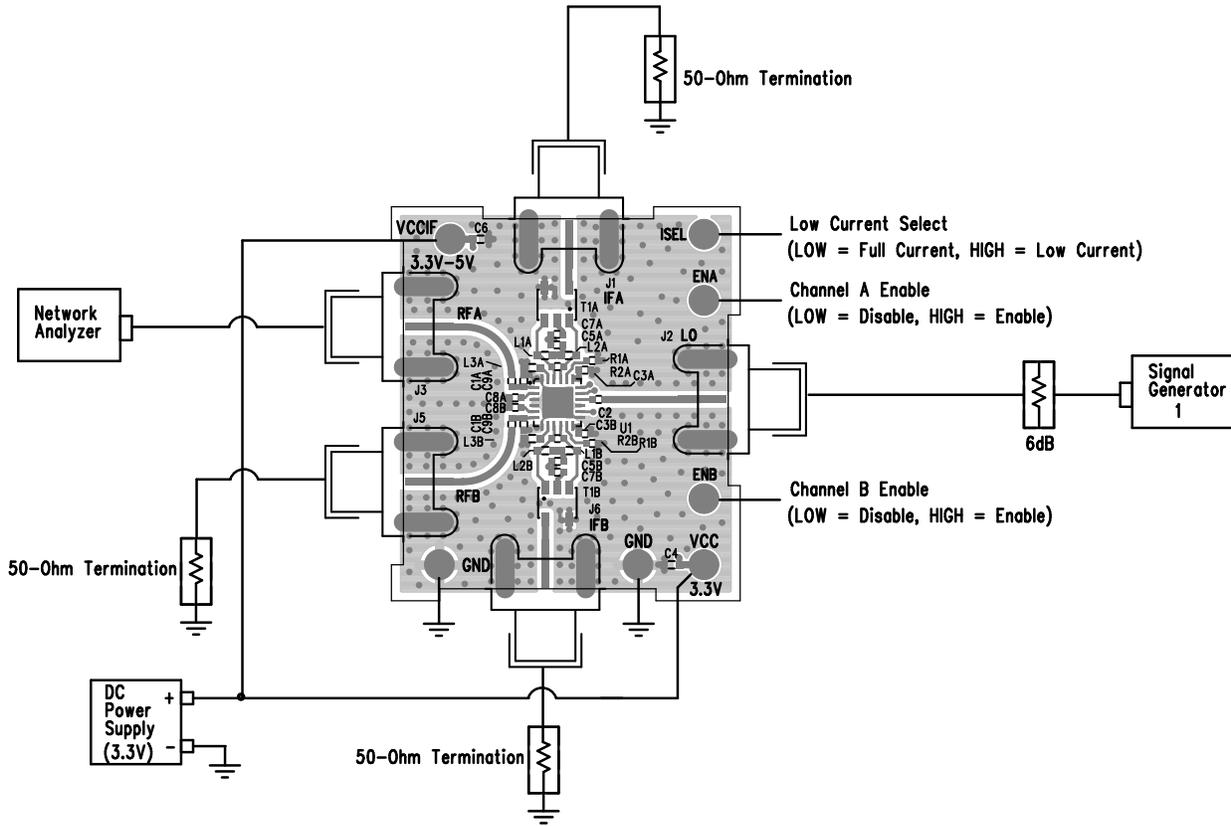
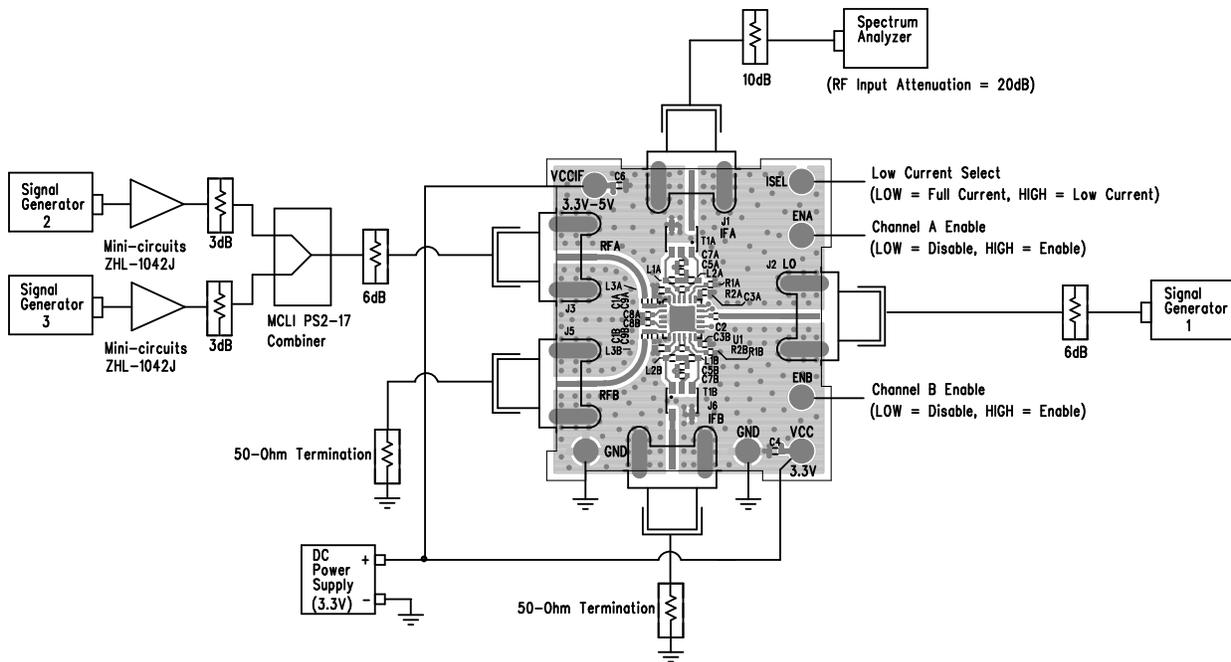

Figure 5. Proper Equipment Setup for Return Loss Measurements
Figure 6. Proper Equipment Setup for RF Performance Measurements
The LTC5590 is a dual high dynamic range downconverting mixer IC with very high input 3rd order intercept. Accuracy of its performance measurement is highly dependent on equipment setup and measurement technique. The recommended measurement setups are presented in Figure 5, Figure 6, and Figure 7. The following precautions should be observed:
The LTC5590 consists of high linearity passive double-balanced mixer cores and IF buffer amplifiers. Due to the bidirectional nature of all passive mixers the $\text{LO}\pm\text{IF}$ mixing products, also referred to as pseudo-image spurs, are always present at the RF input, typically at a level 12dB below the RF input signal. Mismatched impedances at the pseudo-image spur frequencies, such as when filters are used for SSB NF measurements, can significantly impact the linearity and noise figure measurements. To avoid interference from the pseudo-image spurs, terminate the RF input port with an isolator, diplexer, or attenuator. In the recommended measurement setups presented in Figure 6 and Figure 7, the 6dB attenuator pad at the demonstration circuit's RF input serves this purpose.
Demonstration circuit 1710A-A is easy to set up to evaluate the performance of the LTC5590. Refer to Figure 5, Figure 6, and Figure 7 for proper equipment connections. The following procedures describe performing measurements on Mixer Channel A. The measurement procedures for Mixer Channel B are identical.
3. Connect all test equipment as shown in Figure 5 with the signal generator and the DC power supply turned off.
1. Connect all test equipment as shown in Figure 6 with the signal generators and the DC power supply turned off.